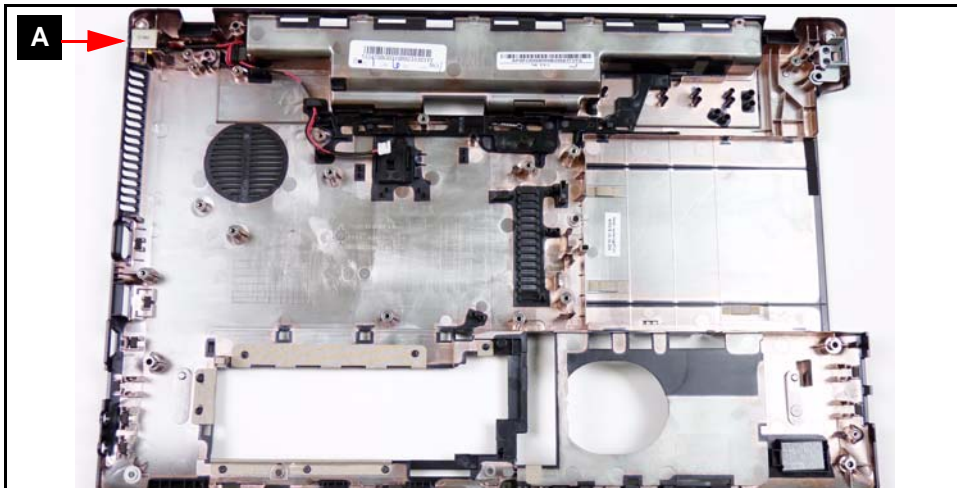

Figure 3-38. DC-IN Cable Location
1. Find DC-IN (Direct Current Input) cable (A) in lower cover. (Figure 3-38)
1. Install DC-IN cable to lower cover (A). (Figure 3-38)